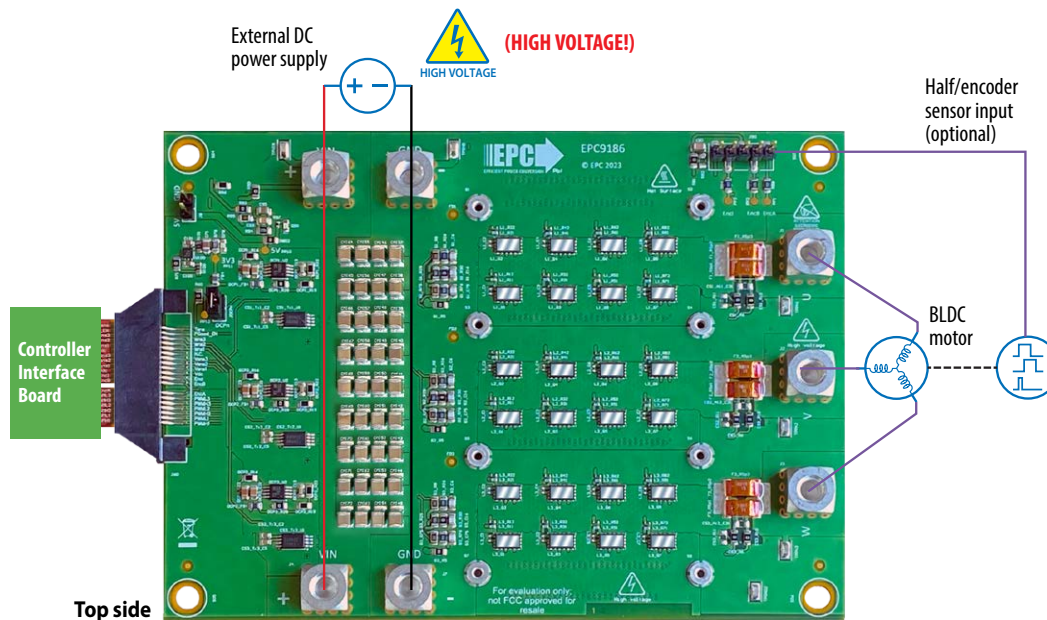

Figure 5: Connection diagram of the EPC9186 configured as a motor drive inverter
The EPC9186 board can be used for either sensor-less or shaft encoder or hall sensor configurations. The motor drive controller options are given in table 4 giving the user various mainstream choices that leverage existing resources to simplify and speed up development and evaluation. Figure 5 shows the simplicity of connecting a controller and motor to the EPC9186. **In the default configuration, the EPC9186 is paired with the EPC9147C (not shown) that is pre-programmed to power and control a NEMA 34 size motor from Teknic M-3411P-LN-08D, with DC supply voltage of 48 V using sensor-less field oriented control with space vector pulse width modulation (SVPWM).**
2. Connect the correct motor, whose parameters are programmed into the controller, to the EPC9186 at connector J1 and the DC power supply at connectors J5 and J6 (**Observe correct polarity, there is no inverse polarity protection on board**) and shown in figure 5.